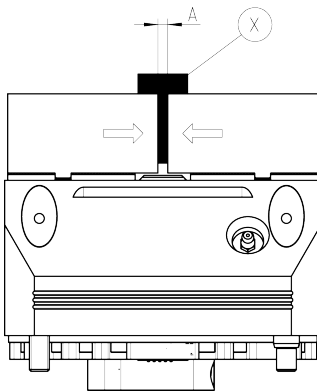

Fig. 2: clamping force block with workpiece "clamped" - Teach position 2, O.D. clamping
- Using a suitable measuring device (e.g. measuring caliper), determine dimension A between the jaws in units of (mm), see Figure 2, and write this as the new value of the acyclic parameter "Teach position 2 - jaw (measured jaw opening width)" to index 103.